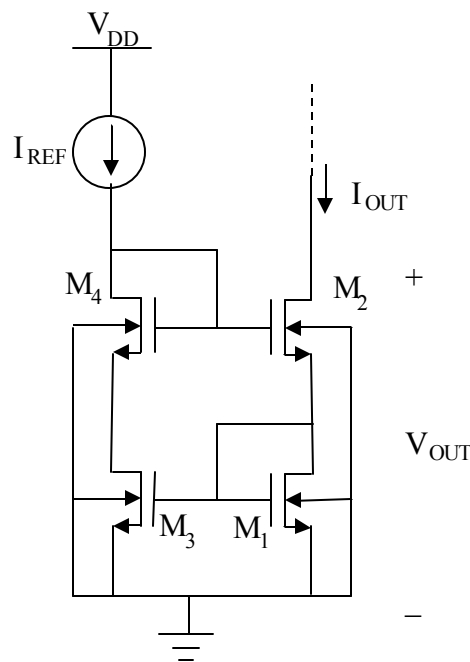

Figure 2. Modified Wilson current source
An alternate design for the MOSFET constant current source is the modified Wilson current source shown in Figure 2. Note that all body connections go to ground. Since we are using a separate chip for M_2 / M_4 than we are for M_1 / M_3 , we *could* eliminate body effect in M_2 and M_4 by connecting their bodies directly to their sources. However, that is not realistic because — in an integrated circuit — all the NMOS substrates (bodies) are common, tied to the lowest potential in the circuit. (Also, all the PMOS substrates (bodies) are common, tied to the highest potential in the circuit.)
- (3) Use two ALD1103 packages to build the modified Wilson circuit in Figure 2, replacing the ideal current source I_{REF} with the resistor value that you calculated in your pre-lab work.